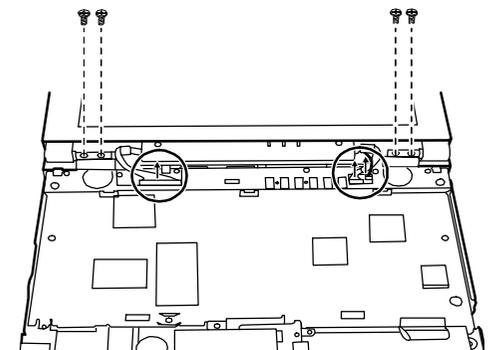

Figure 5-23. Unplugging the cable connectors and removing four screws
5. Remove four screws from the hinges. Now you can separate the LCD assembly from the base unit. (Refer to Figure 5-23)